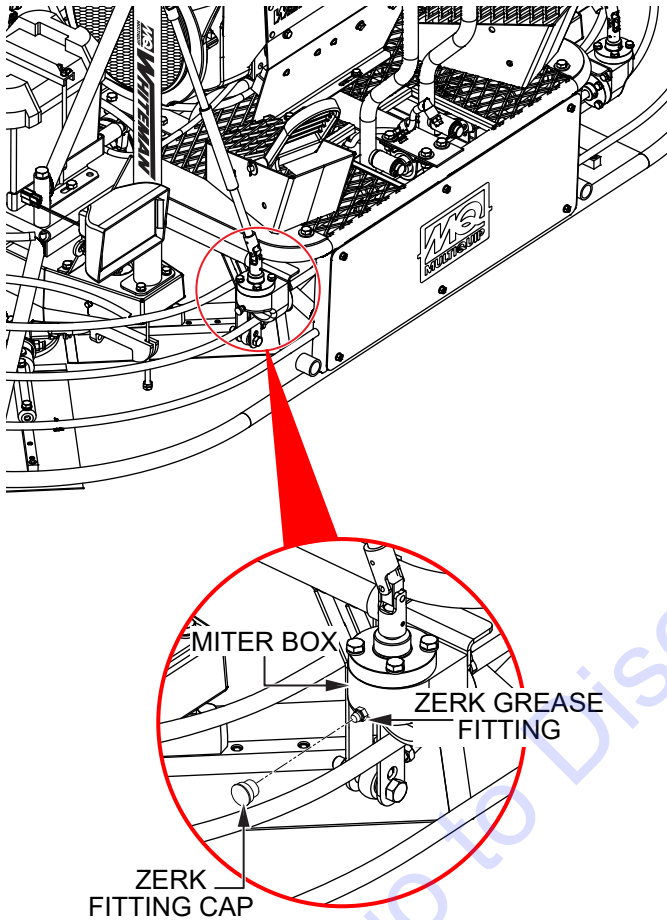

Figure 44. Miter Box Lubrication
1. Locate the Zerk grease fitting on either miter box (Figure 44). Remove the Zerk grease fitting cap and set it aside.